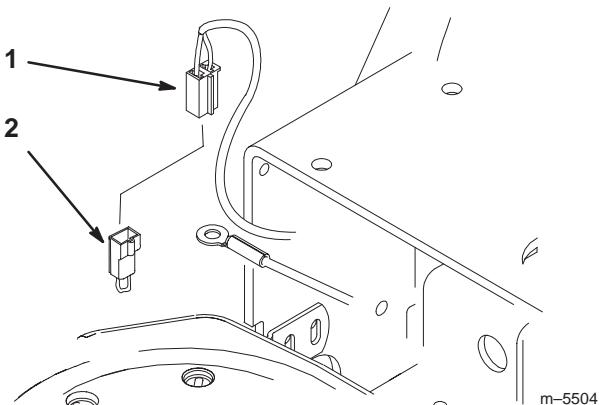

Figure 7
1. Install the jumper wires into both neutral switch connectors (Figures 7 and 15).